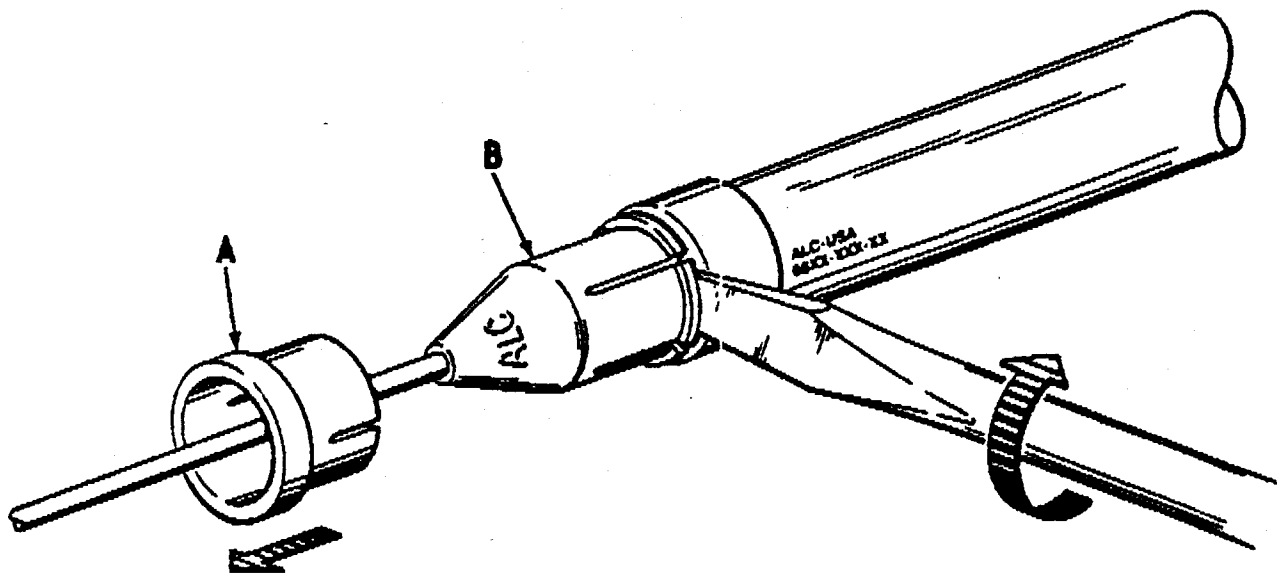

Figure 3. Removal of Lamp Connector
Step 1. Disassemble lamp connector from one end of lamp as follows (refer to Figure 3):